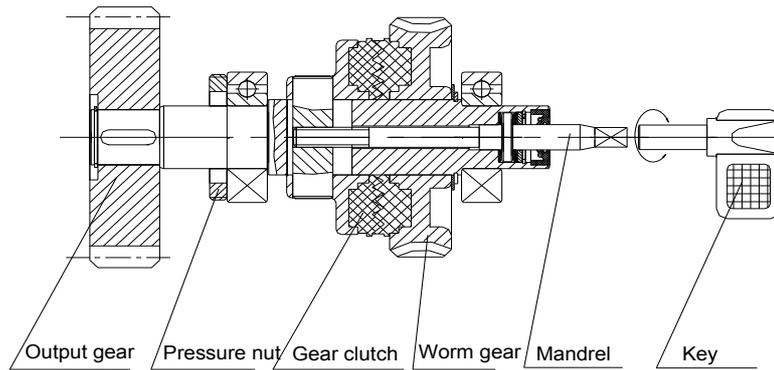

Fig.3
**Release function:** the worm gear components are shown in Fig.3. It includes a pair of plastic gear clutches. In case of power failure you can use the key to release the clutch, and then the gate can be moved manually.